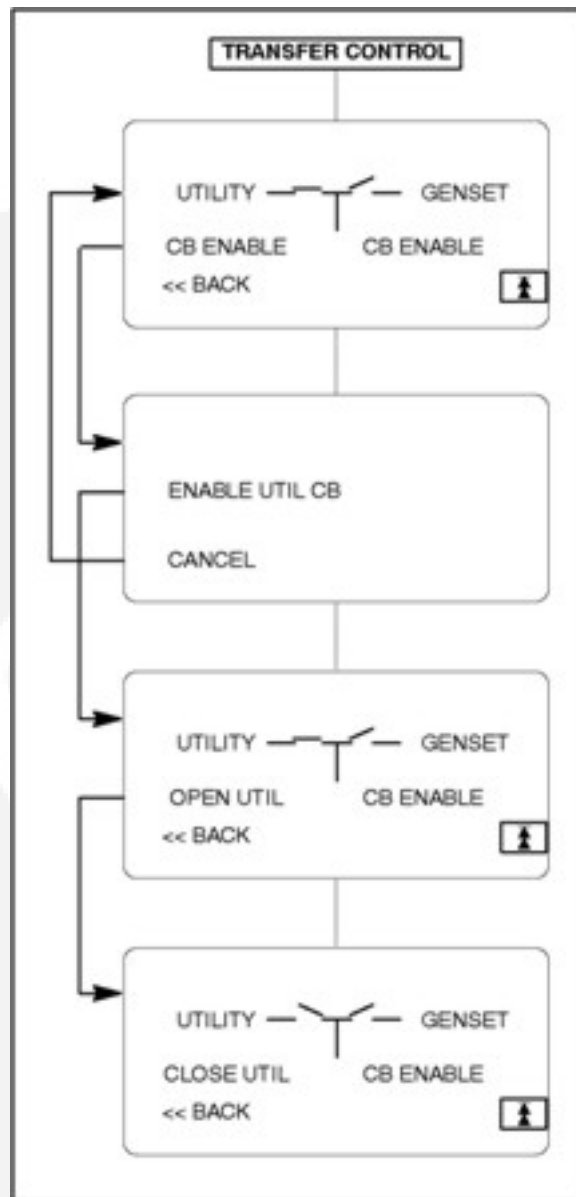

FIGURE 23. TRANSFER CONTROL SUBMENUS
If you press the **TRANSFER CONTROL** button in the Power Transfer Main Menu, the Transfer Control Submenu will appear (Figure 23 on page 52).
*EXAMPLE* Figure 23 on page 52